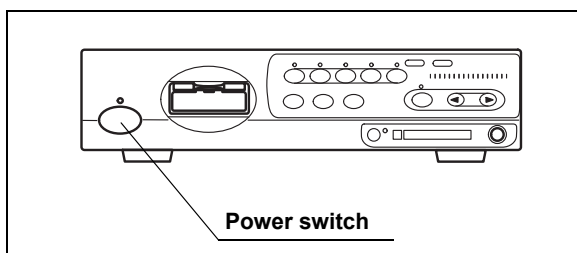

Figure 5.38
1. Turn the video system center and the monitor ON (see Figure 5.38).